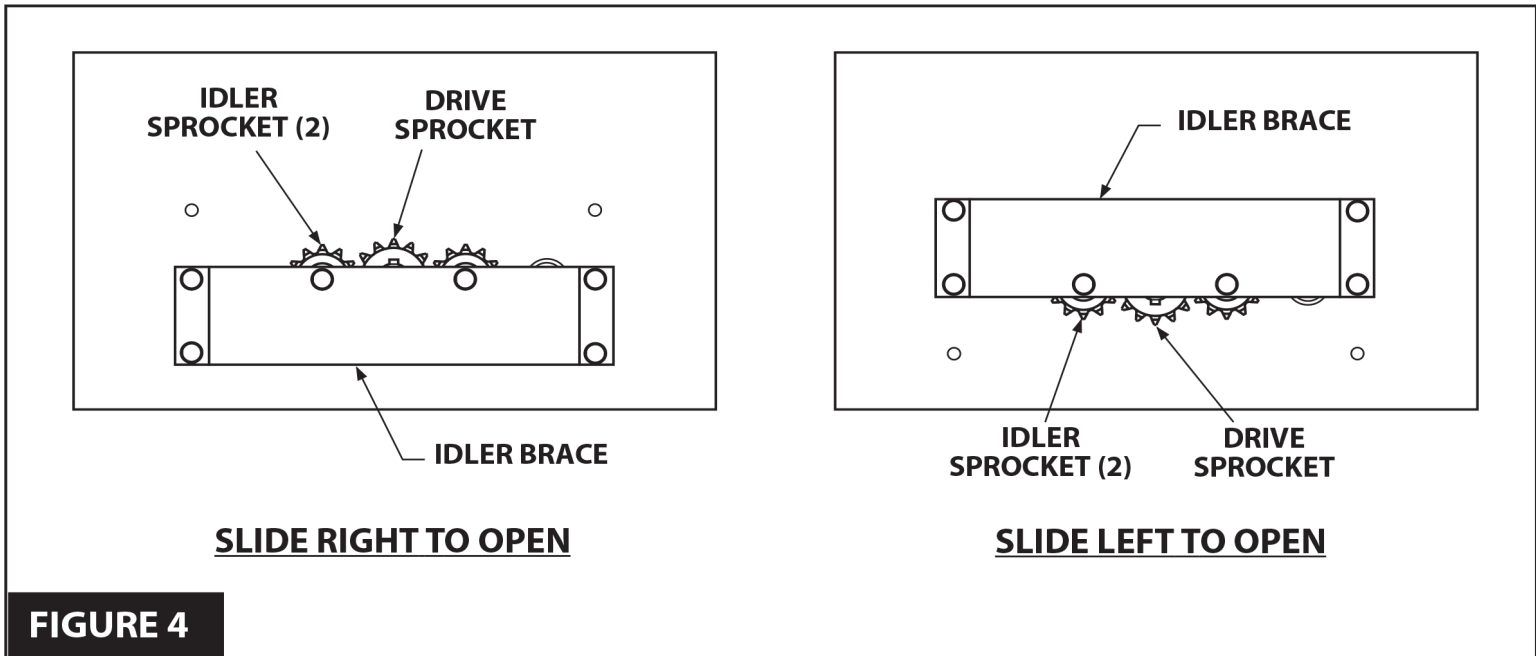

FIGURE 4
2. Operators are shipped from the factory as *Slide right to open*. For *Slide left to open*, remove idler brace, turn idler brace upside down, and reinstall using upper hole pattern. See **Figure 4**.